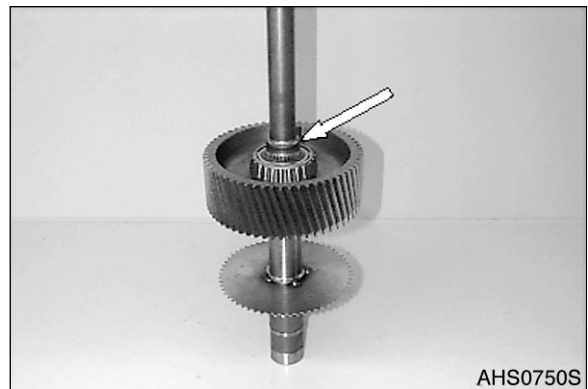

Figure 95
2. Squeeze rectangular ring out (Figure 95).